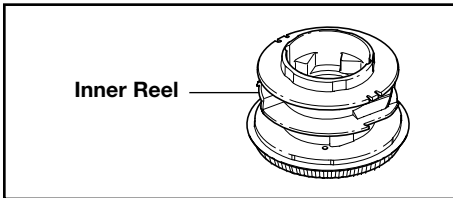

Fig. 26
3. Remove any debris or grass from the knob, spring, inner reel, and foam seal. Remove any existing line from the inner reel before cleaning. Wash the inner reel with warm soapy water (Fig. 26).